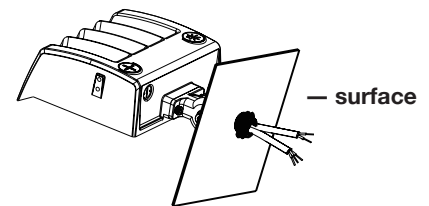

FIGURE 1.5
3. Loosen screws; Adjust fixture angles as per actual demands and tighten screws later; Angles of the fixture is adjustable (pass the bracket through mounting surface, fix it with screws, then connect the wires as per proper wiring requirements.) (FIG 1.5)